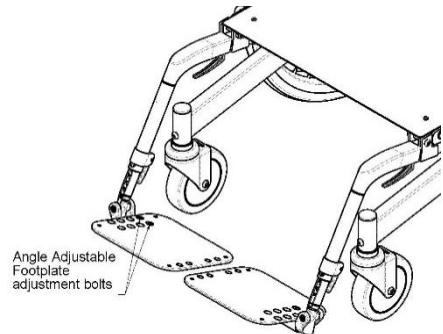

Figure 12.10: Adjustable Angle Footplates
1. Loosen the angle adjustable footplate adjustment bolts as shown in Figure 12.10.
1. Remove the angle adjustable footplate adjustment bolts as shown in Figure 12.10.